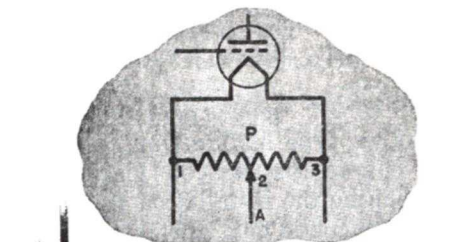

FIG. 5. How a hum balancer is connected to give the effect of a filament center tap.
**Hum Balancers.** In a few radios you may find a triode tube in the audio amplifier. The grid return to such a tube is made to some point representing the center tap of the actual tube filament. Sometimes a center-tapped resistor or potentiometer will be used as shown in Fig. 5. The potentiometer  $P$  is normally adjusted so that hum is at a minimum. However, if this potentiometer burns out or becomes disconnected at either terminal 1 or terminal 3, then it effectively just connects terminal A to one side of the filament. This will introduce hum, as will improper adjustment of the tap.